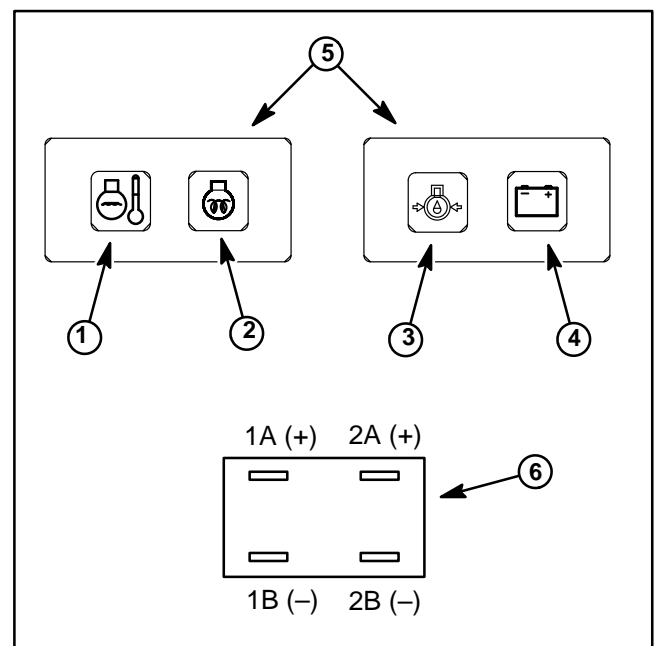

Figure 20
1. Apply 12 VDC to terminals 1A and 2A (Fig. 20).
2. Ground terminals 1B and 2B (Fig. 20).